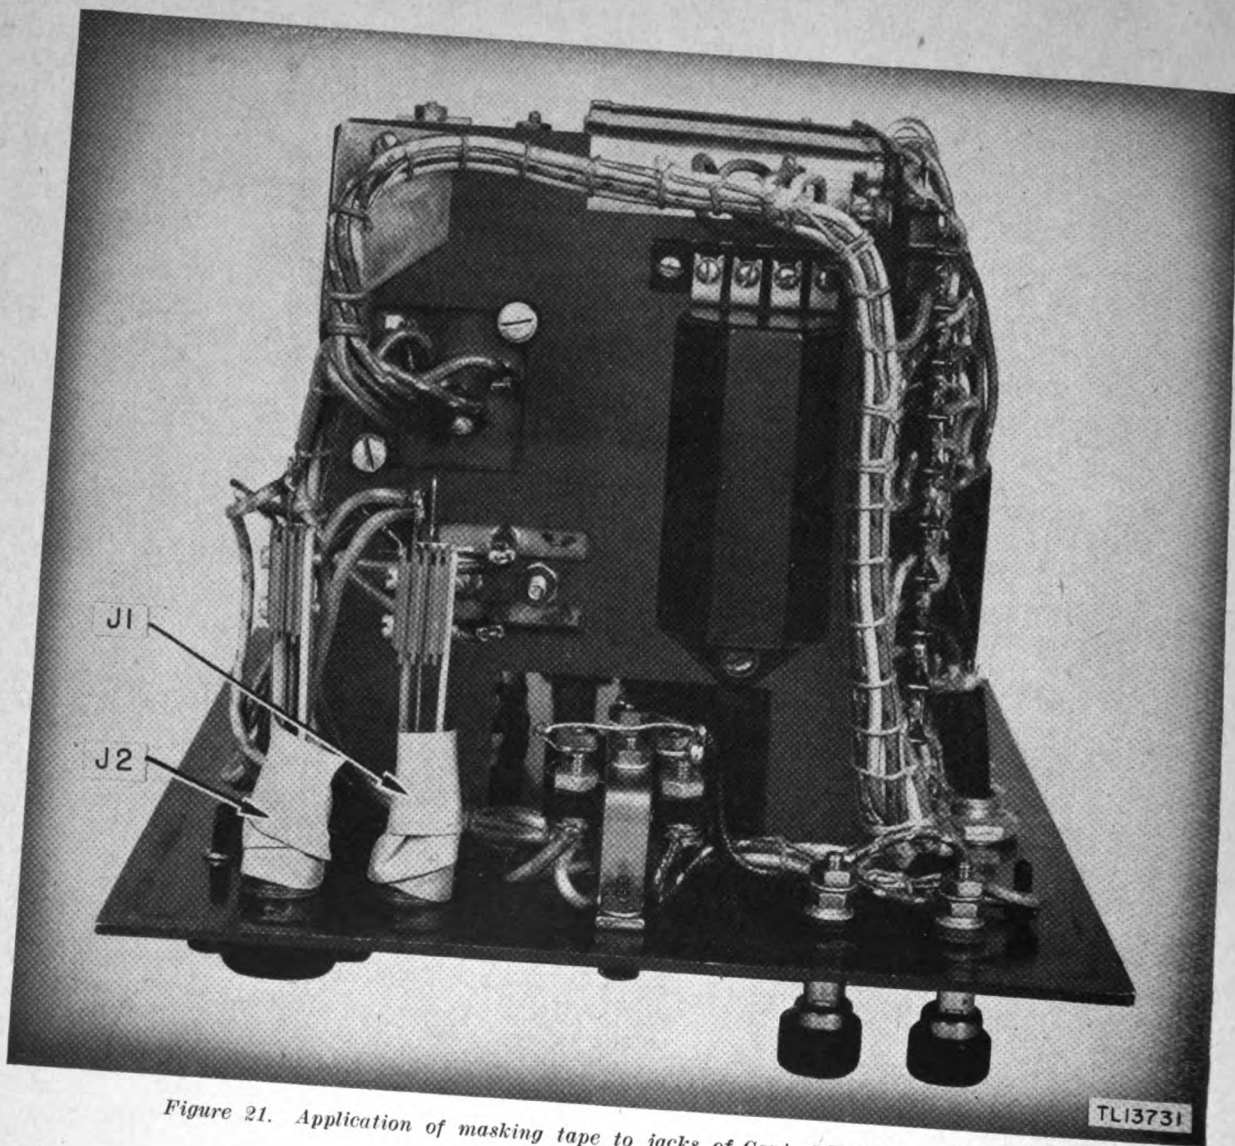

Figure 21. Application of masking tape to jacks of Control Unit C-113/TRA-2.
(1) Mask contacts and sleeve openings of jacks J1 and J2 as shown in figure 21.